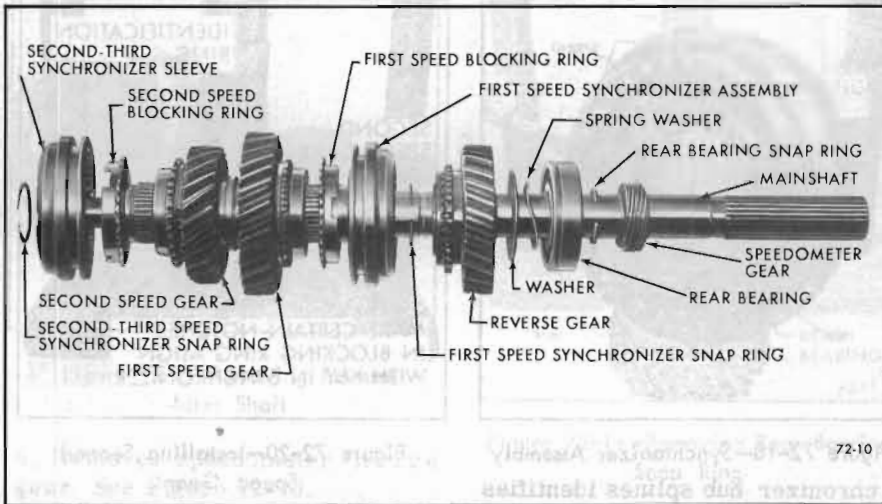

Figure 72-22—Exploded View of Mainshaft
3. Install reverse gear, thrust washer, spring washer, and rear bearing. See Figure 72-22.
5. Install second-third synchronizer sleeve. See Figure 72-22.